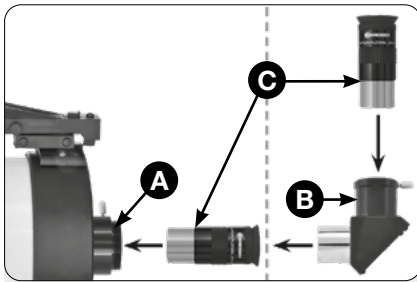

Fig 11 Mounting options for the optical accessories on the focusing unit.
11. Insert the eyepiece (Fig 11) for straight viewing mode: Remove the dust cap from the eyepiece holder. Place the dust cap in a safe place and replace it when you have finished observing to prevent dirt from entering the telescope. Loosen the knurled screw and insert the supplied eyepiece (C, Fig 11) into the eyepiece holder (A, Fig 11). Then hand-tighten the screw again so that the eyepiece is firmly seated.
12. Insert the zenith mirror (Fig 11): Recommended at zenith height for a more comfortable neck-friendly view. The zenith mirror (B, Fig 11) is inserted into the eyepiece holder (A, Fig 11). Then insert the eyepiece (C, Fig 11) into the receptacle of the zenith mirror. After inserting the zenith mirror and eyepiece, retighten the corresponding fixing screws well so that all parts are securely fixed in position.